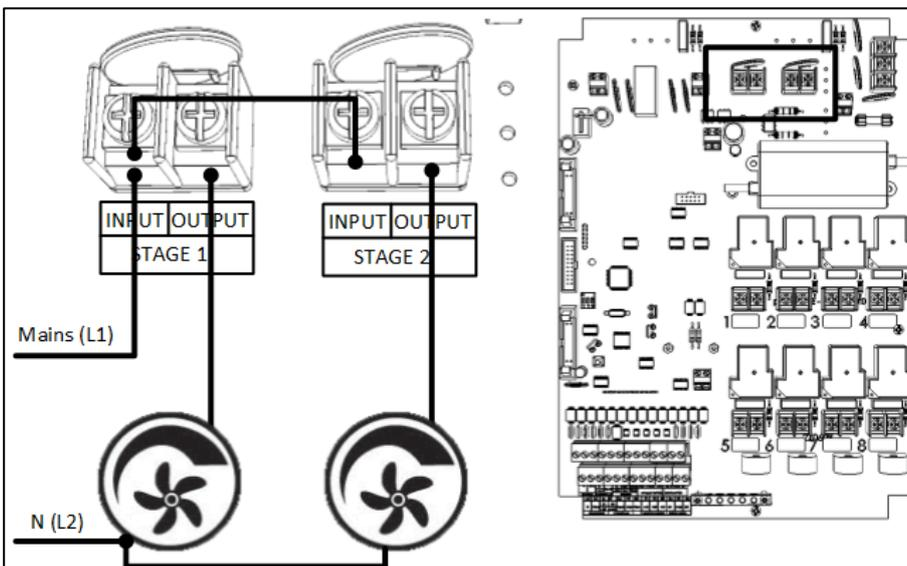

Figure 24: TRIAC Device Wiring
- Figure 24: TRIAC Device Wiring
➡ Wire the TRIAC devices to the Element relays as shown in Figure 24.
4. On the Element side are two toggle switches. After wiring a TRIAC device (refer to Figure 24), turn a toggle switch to On or Auto to enable the device